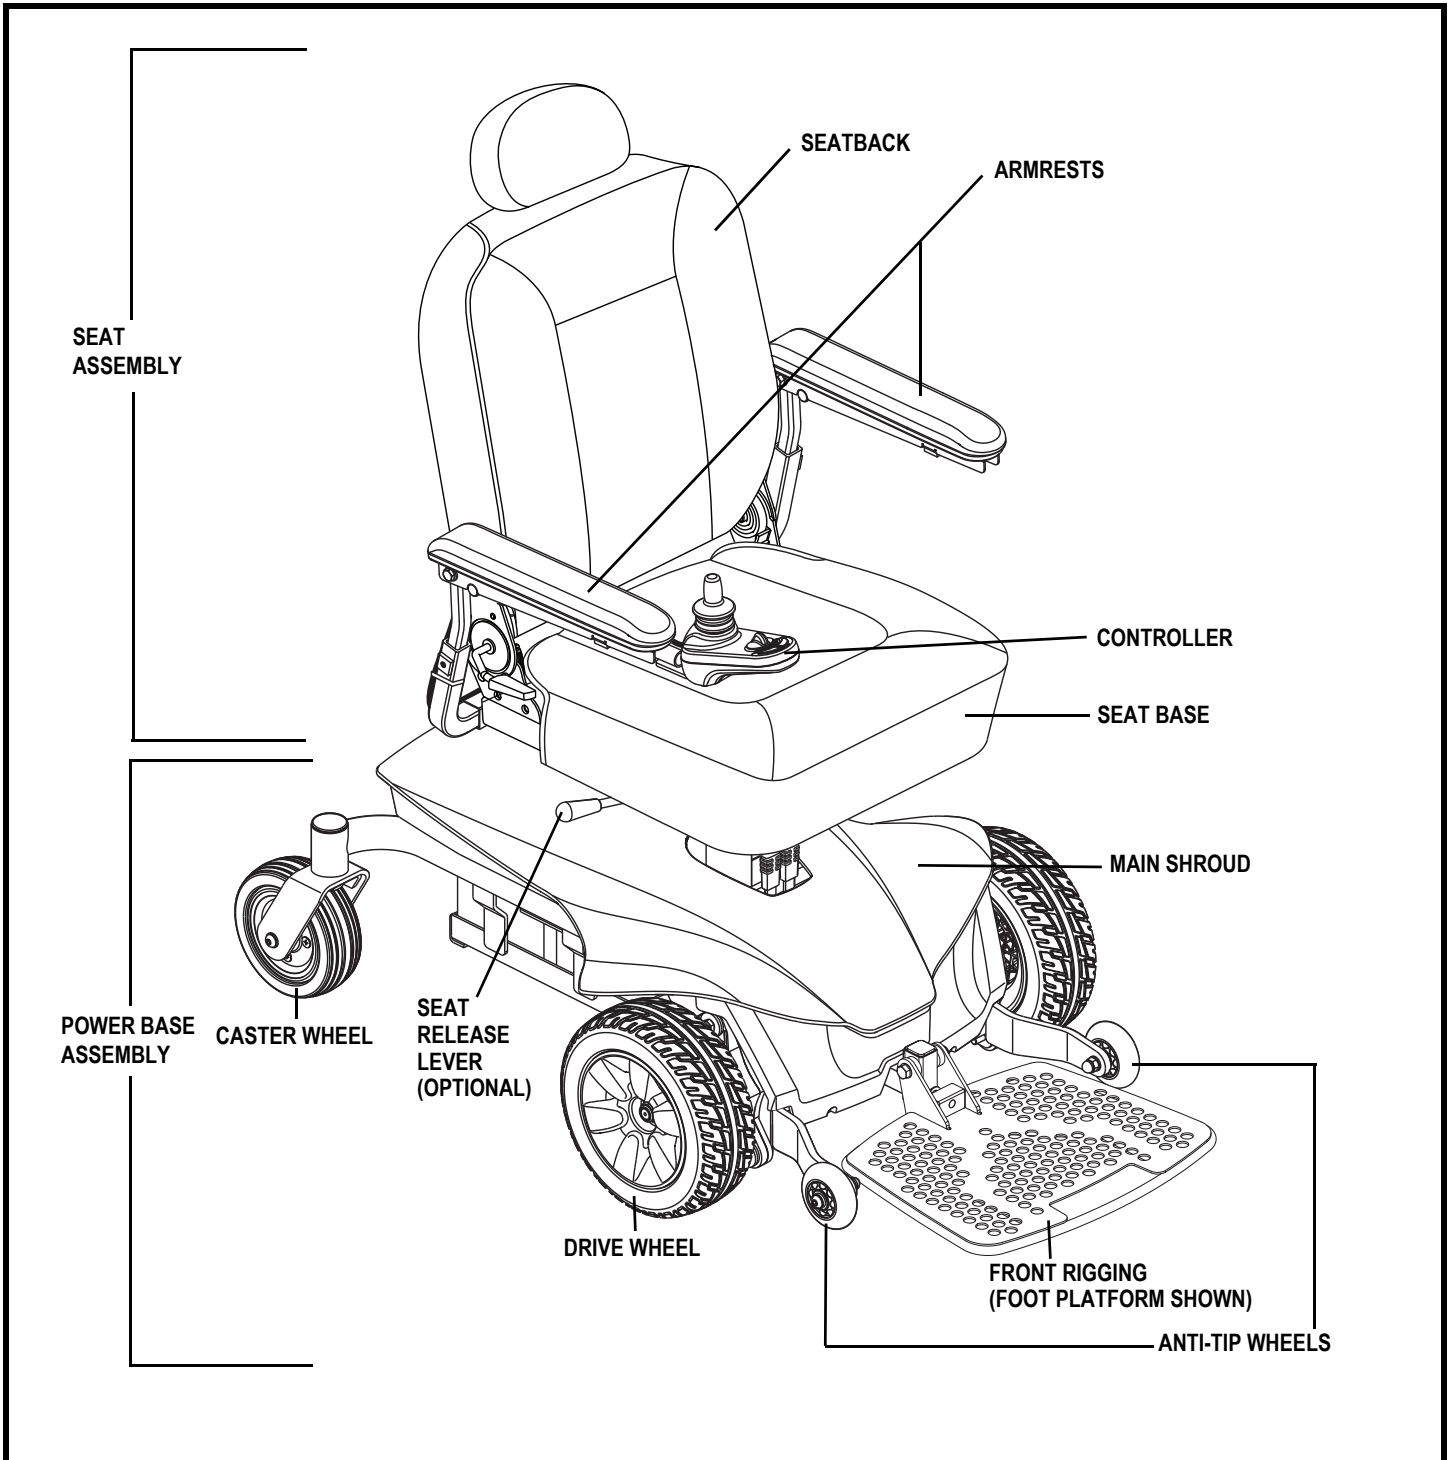
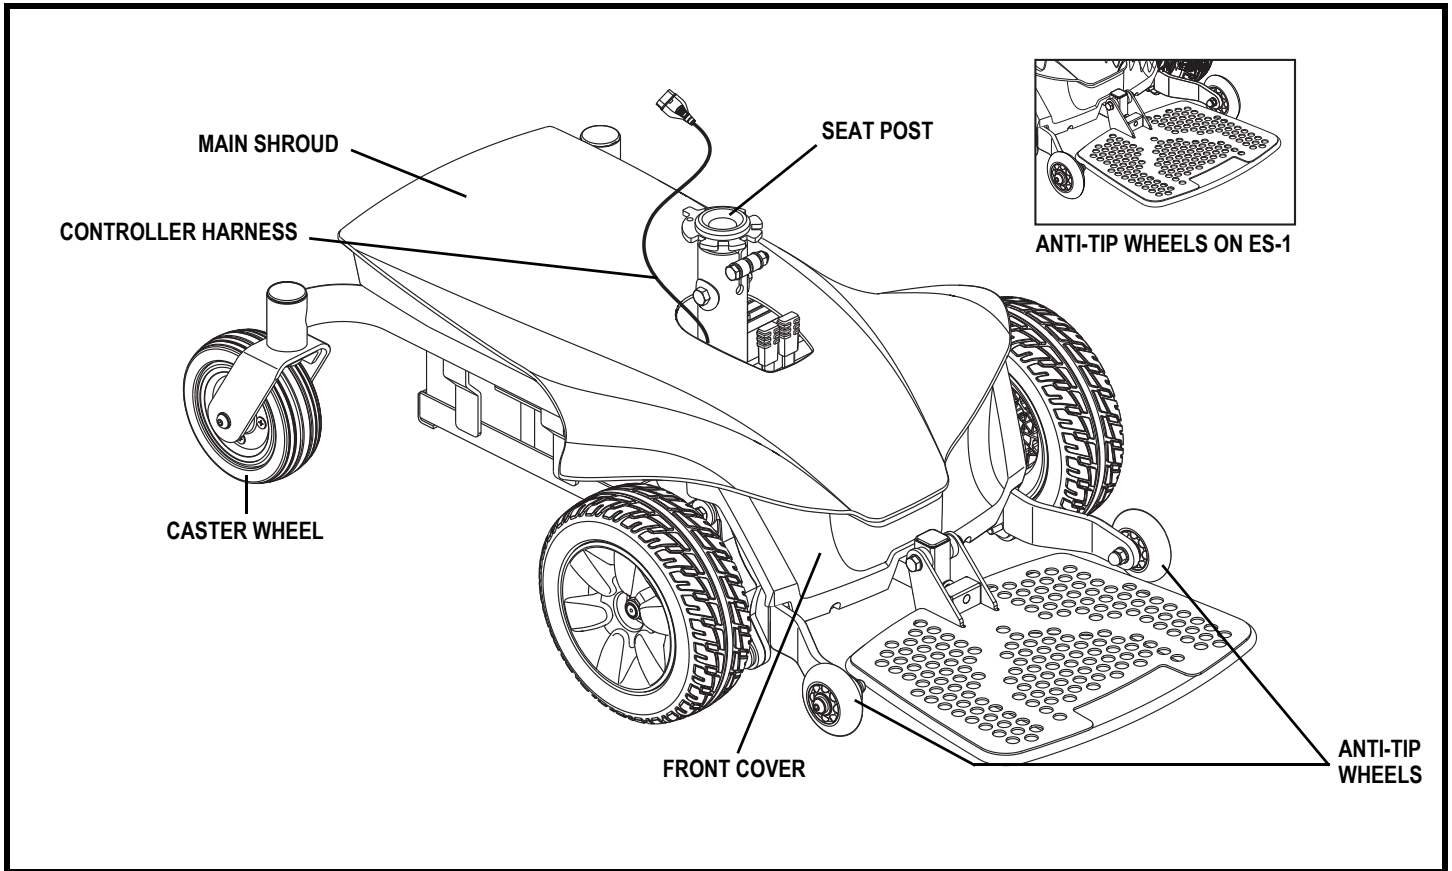

Figure 1. The Jazzy Series Power Chair (Elite ES Shown)
Figure 2. The Jazzy Series Power Base
The Jazzy Series Power Chair has two main assemblies: the seat assembly and the power base assembly. See **figure 1**. Typically, the seat assembly includes the armrests, seatback, and seat base. The power base assembly includes two motor/brake assemblies, two drive wheels, two rear caster wheels, two front anti-tip wheels, two batteries, and wiring harnesses. See **figure 2**.
5. Plug the controller harness into the connector on the power base. **See figure 2.**
4. Disengage the seat release lever, if equipped. **See figure 1.**